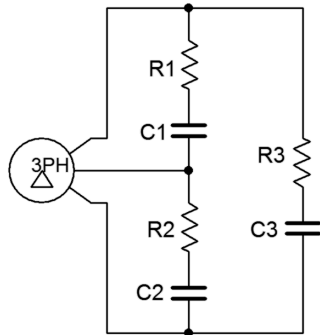

Figure 9.9
17. A 120 volt 3-phase Δ connected generator feeds a Δ connected load consisting of 3 legs of $75\ \Omega$ in series with $-j10\ \Omega$ of capacitive reactance as shown in Figure 9.9. Find the voltage across each load leg, the current through the wires connecting the load to the generator, and the apparent and real powers drawn by the load.